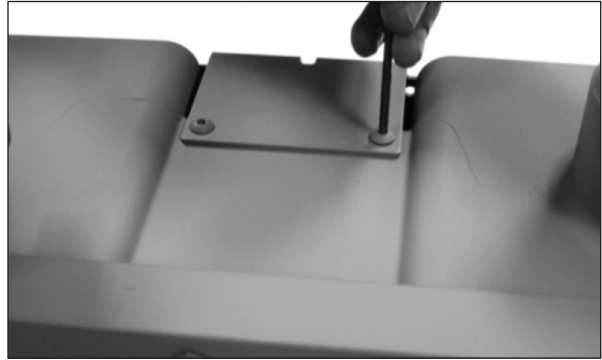

Figure 9.27 - Attach AMR plate to the meter.
15. Use a 1/8" Allen wrench to attach the two (#10-24) screws on the AMR plate on the top of the meter as shown in Figure 9.27. Torque screws to 10-12 inch pounds.